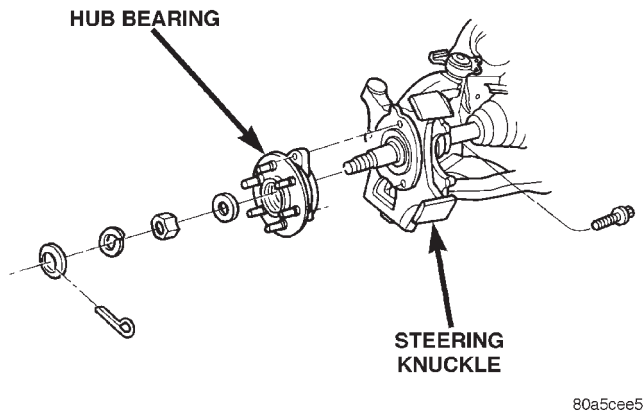

Fig. 12 Hub/Bearing
- (1) Raise and support vehicle.
- (2) Remove wheel and tire assembly.
- (3) Remove axle nut.
- (4) Remove ABS wheel speed sensor if equipped, refer to Group 5 Brakes.
- (5) Remove the brake caliper and rotor, refer to Group 5 Brakes.
- (6) Remove hub/bearing mounting bolts from the steering knuckle (Fig. 12).
- (7) Slid hub/bearing out of the steering knuckle and off the axle.